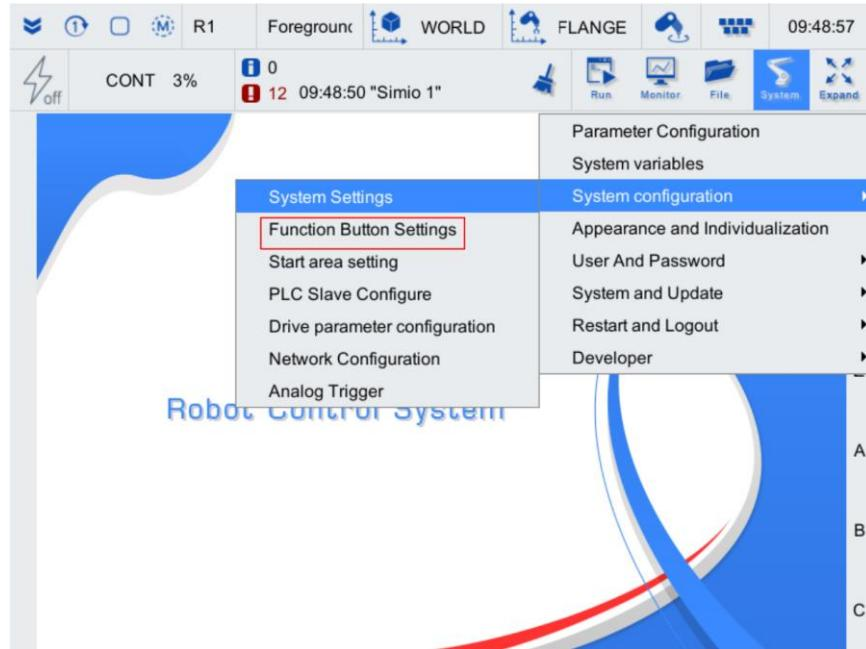

Figure 6-11 Teach pendant main interface
Step3. Click on [System/System configuration/Function Button Settings] on the main interface of the teach pendant, as shown Figure 6-11.